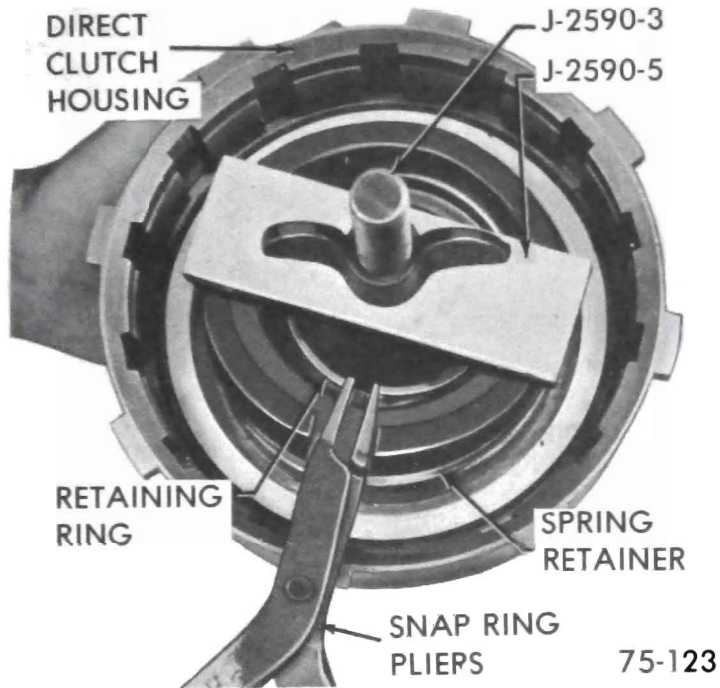

Figure 75-166
8. Remove direct clutch piston return spring seat retaining ring and spring seat by using Tools J-2590-3, J-2590-5, and snap ring pliers. See Figure 75-166.
5. Install spring retainer. Compress spring retainer and install retaining ring, using Tools J-2590-3 and J-2590-5. See Figure 75-166.